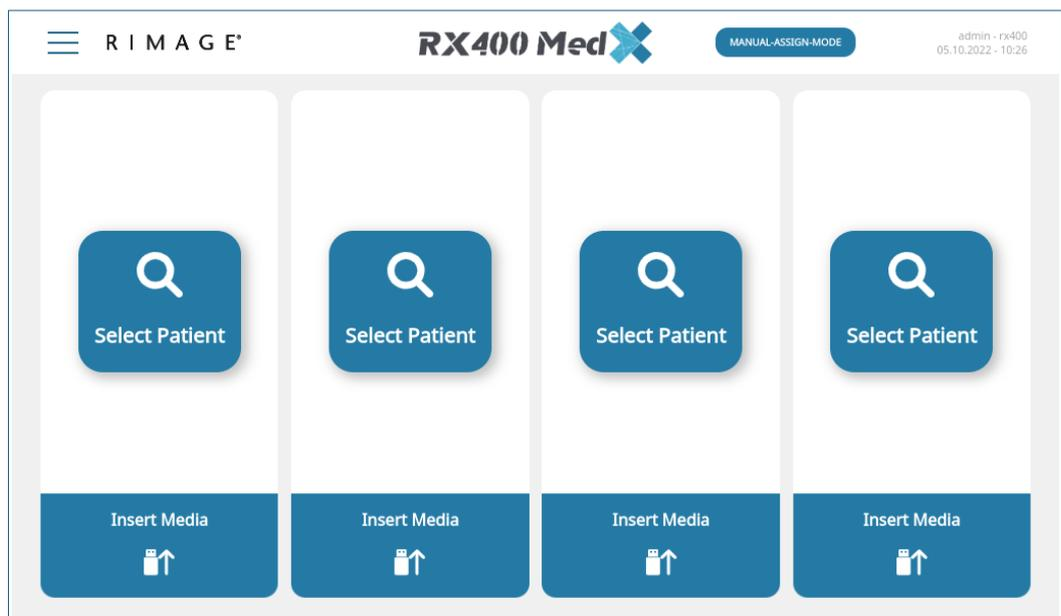
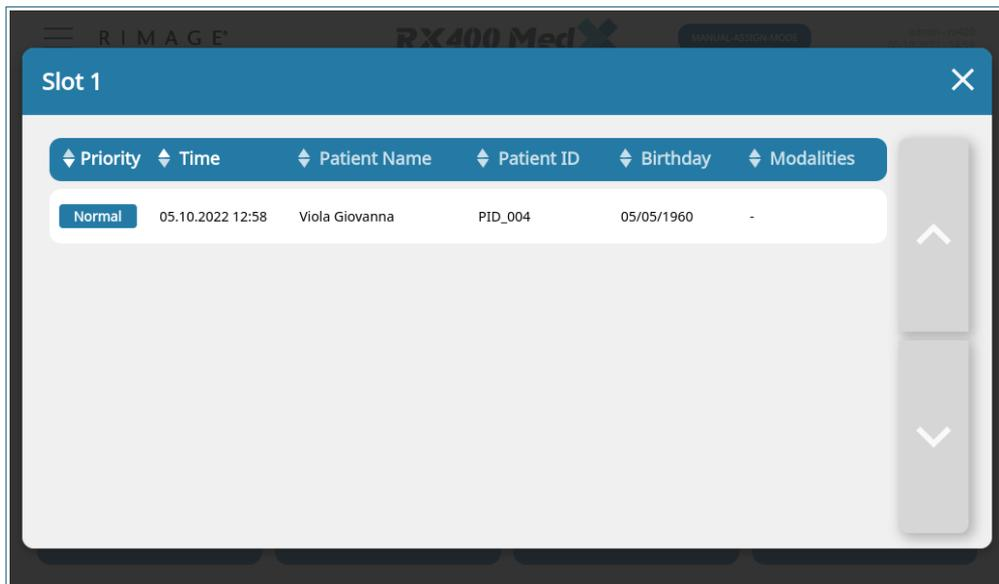
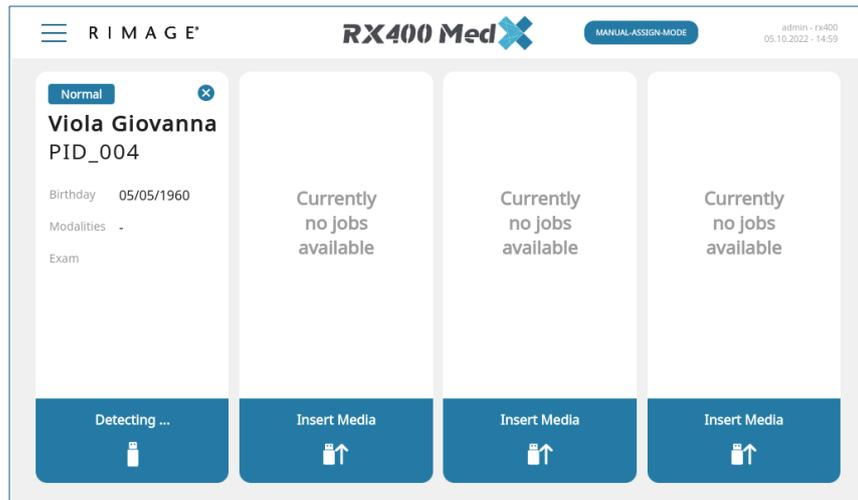

Figure 20: Home screen with running tickets
Figure 28: Job Select List
Figure 29: Slot Overview
In Manual Assign Mode, when at least one ticket is available and in a running state, the *Select Patient* button displays on the home screen (see figure 20). Tap this button to open the *Job Select* list (see Figure 28).
The parameters displayed both in the *Job Selection List* (see Figure 28) and the *Slot Data Overview* (see Figure 29) can be defined in the settings under *Card*.
In the *Manual Assignment Mode*, the presence of pending jobs is indicated by the *Select Patient* button (Figure 20, page 24 ), which is shown on all free slots, no matter if an USB Stick is inserted or not.
2. The *Job Select List* appears. (Figure 28 , page 29).